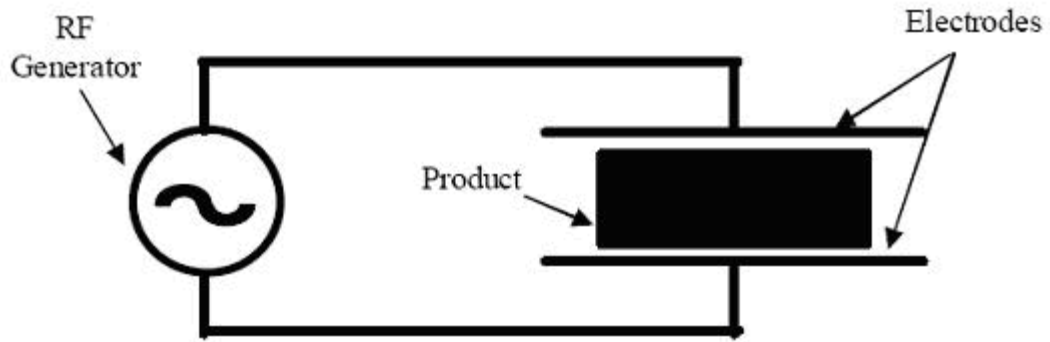

Fig. 1 Simple RF Heating Set-up
RF heaters are similar to microwave ovens where products (food, biscuits, paper, textiles etc) passing through the oven (heater), are subjected to a direct or volumetric heating process in the form of a radio frequency (RF) energy source. In the simplest form of RF applicator, the material to be heated is placed between two metal plates which form an electrical capacitor (see Fig. 1). The material becomes a 'lossy' dielectric (hence the alternative name of 'Dielectric Heating') and absorbs energy from the RF Generator which is connected across the two plates (known as 'electrodes').